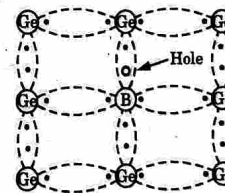

Fig. 3.12.2. Boron hole (acceptor).
2. Fig. 3.12.2 shows each atom of boron *i.e.*, trivalent impurity is added to pure germanium crystal.